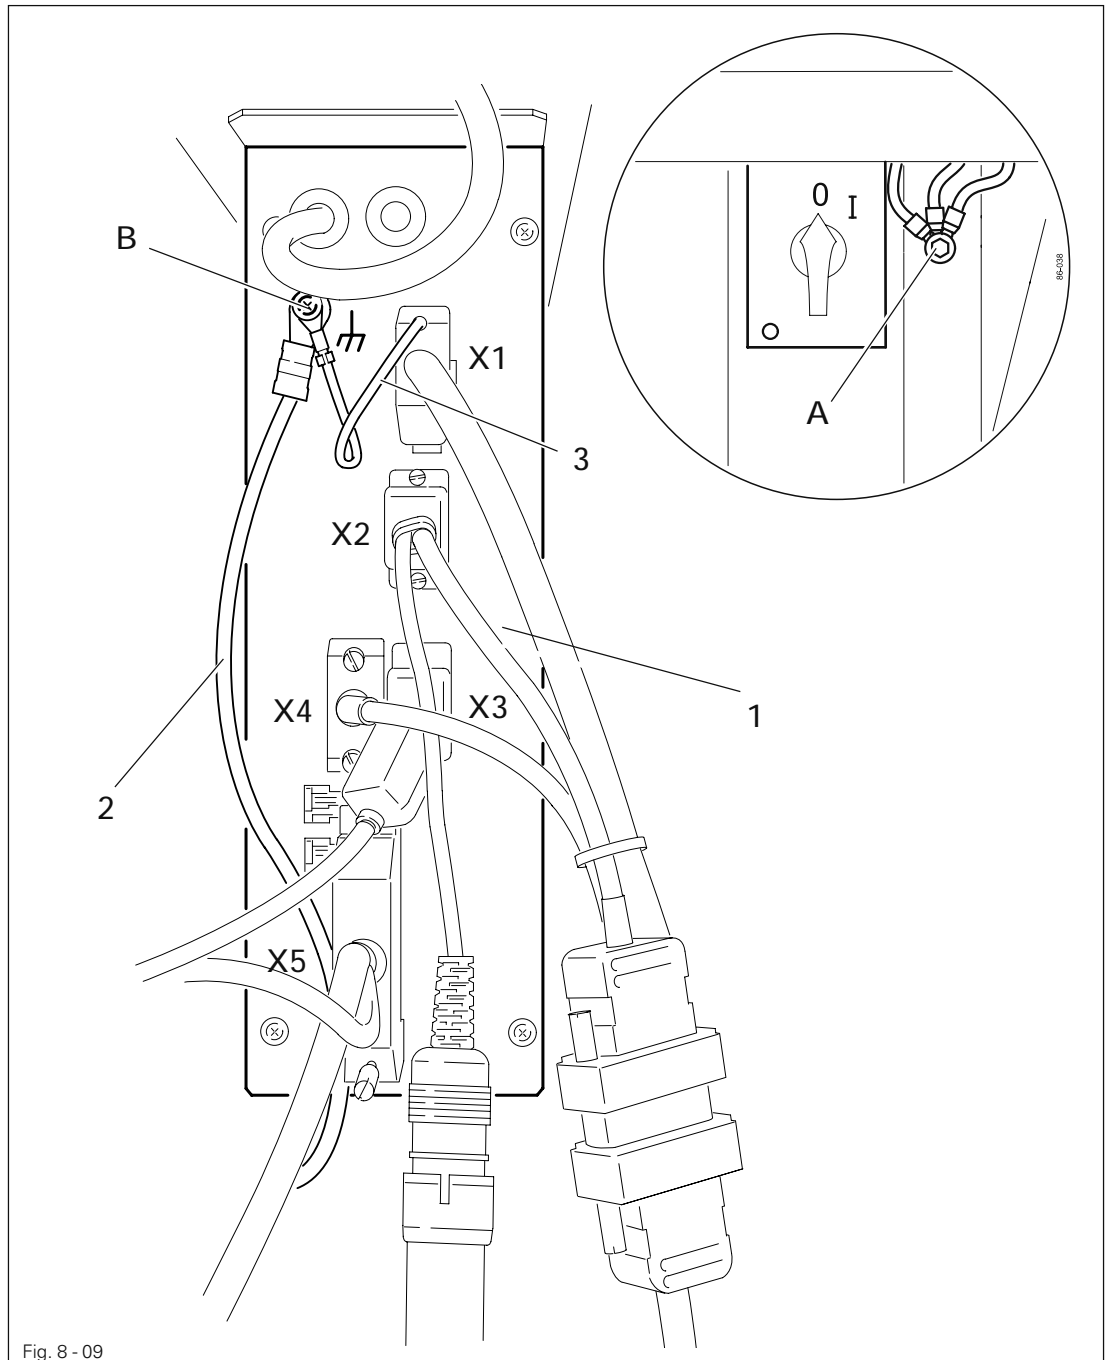

Fig. 8 - 09
- Fit the reel stand as shown in Fig. 8 - 08.